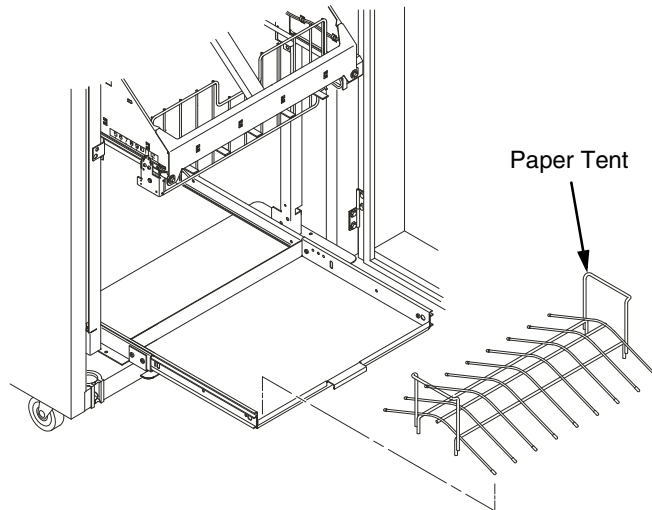

Figure 72. Removing the Paper Tent
4. Remove the paper tent (if present). (Figure 72.)